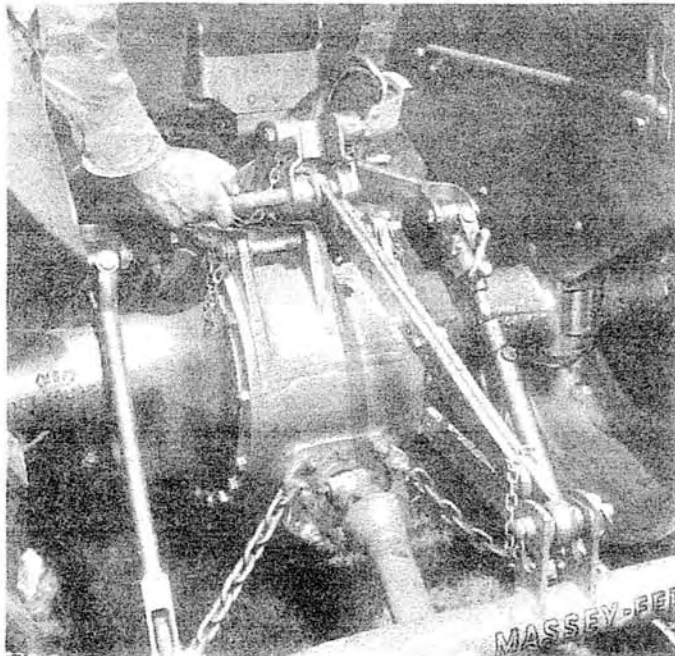

Fig. 15 - Attaching Top Link
7. The top link may now be connected; the length should already have been adjusted according to the table on Page 6. The link may be attached either by leaving the forward end attached to the tractor, and rocking the mower back and forth in order to attach the rear end; or by attaching the link to the mower top hitch point with the forward end left free and then mounting the tractor and driving back and forth gently, at the same time slipping the link pin into the forward connection (as in Fig. 15). If the cutter bar is upright, the former method may be advantageous as the cutter bar can be used to rock the top hitch point back and forth, providing plenty of leverage.